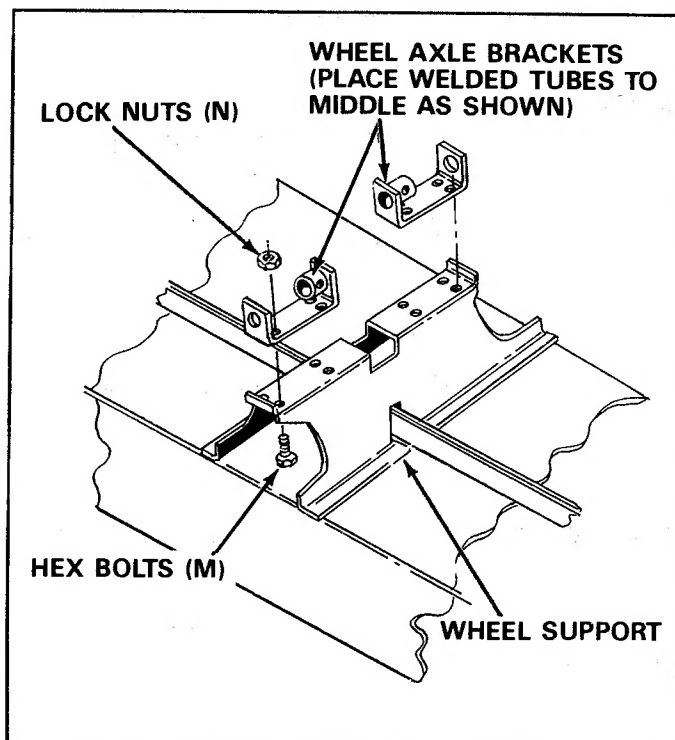

FIGURE 10
15. Tighten all bolts assembled in step 4 through 14, lower cart assembly to rest on top flanges, with axle support up. See figures 10 and 13.
16. Assemble wheel axle brackets (2) to wheel support, using 5/16" x 3/4" hex bolts (M) and lock nuts (N). **NOTE:** Place welded tubes to middle, as shown in figure 10.